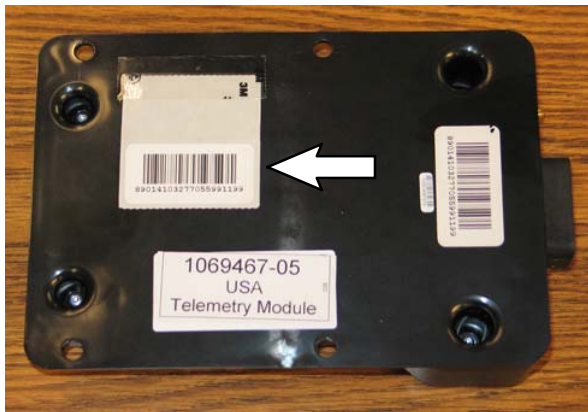

FIG. 9
8. Remove the additional SIM label from the back of the control box (1) and set label aside in a safe place. The number on the SIM label will be needed for activating the machine. (Fig. 9)